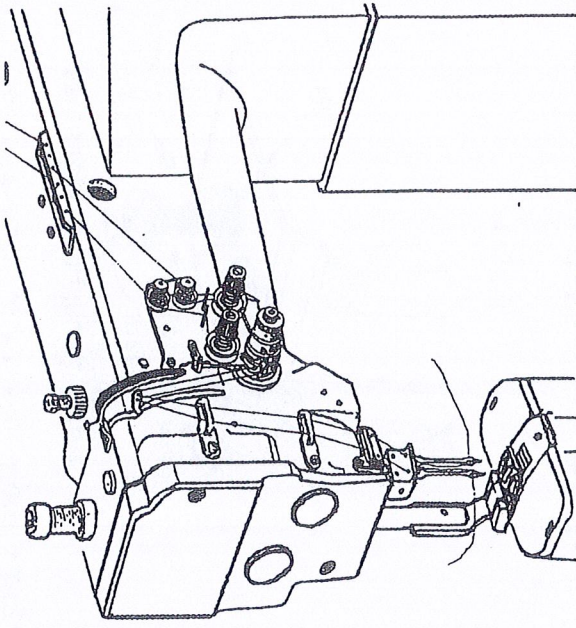

Fig. 3
7. Lead the Upper Thread (Fig.3):
Raise the thread take-up lever to its highest position and lead the upper thread as shown in fig.3.